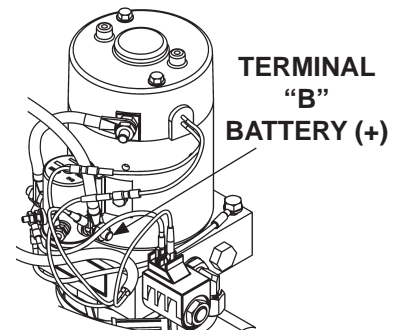

FIG. 49-1
1. Use voltmeter to verify power is being supplied to solenoid terminal "B". Recharge the battery if voltmeter displays less than 12.6 volts (**FIG. 49-1**).